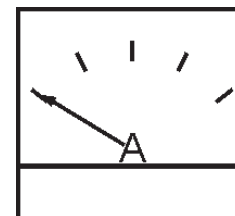

Figure 48. Ammeter (No Load)
13. The ammeter (Figure 48) will indicate zero amps with no load applied. When a load is applied, this meter will indicate the amount of current that the load is drawing from the generator.